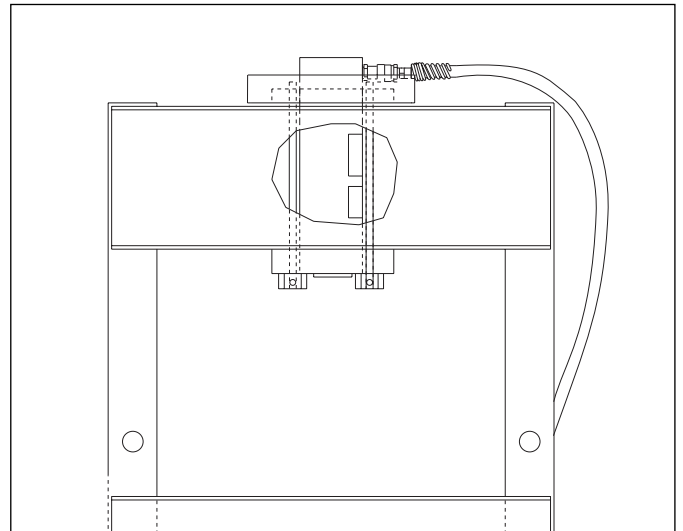

Figure 2. Hydraulic Connections for Single-Acting Cylinders
4.1 Single-Acting Cylinders (See Figure 2)